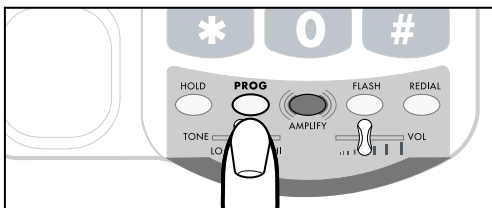

Figure 20 - PROG Button
1. Lift the handset and press **PROG** as shown in Figure 20.